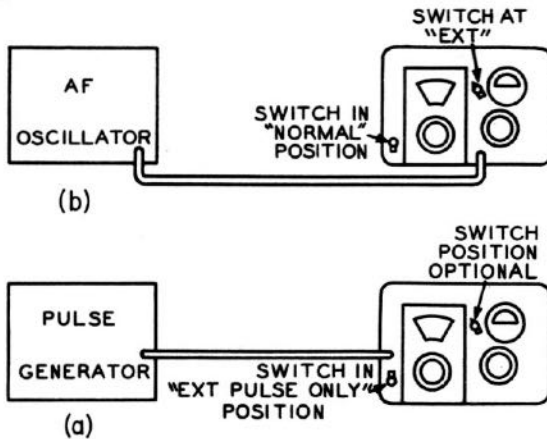

Figure 4-3. RF Signal Generator SG-45A/URM-26, Diagram for External Modulation
a. Figure 4-3 illustrates methods for connecting RF Signal Generator SG-45A/URM-26 to either an external pulse generator or sine wave oscillator. These auxiliary equipments are not necessary for proper functioning of the signal generator but they expand its test facilities and range of application.
When RF signal generator SG-45A/URM-26 is to be modulated from an external sine wave generator, switch S-103 must be in NORMAL position and amplitude modulation switch S-104 in EXT position. See figure 4-3.